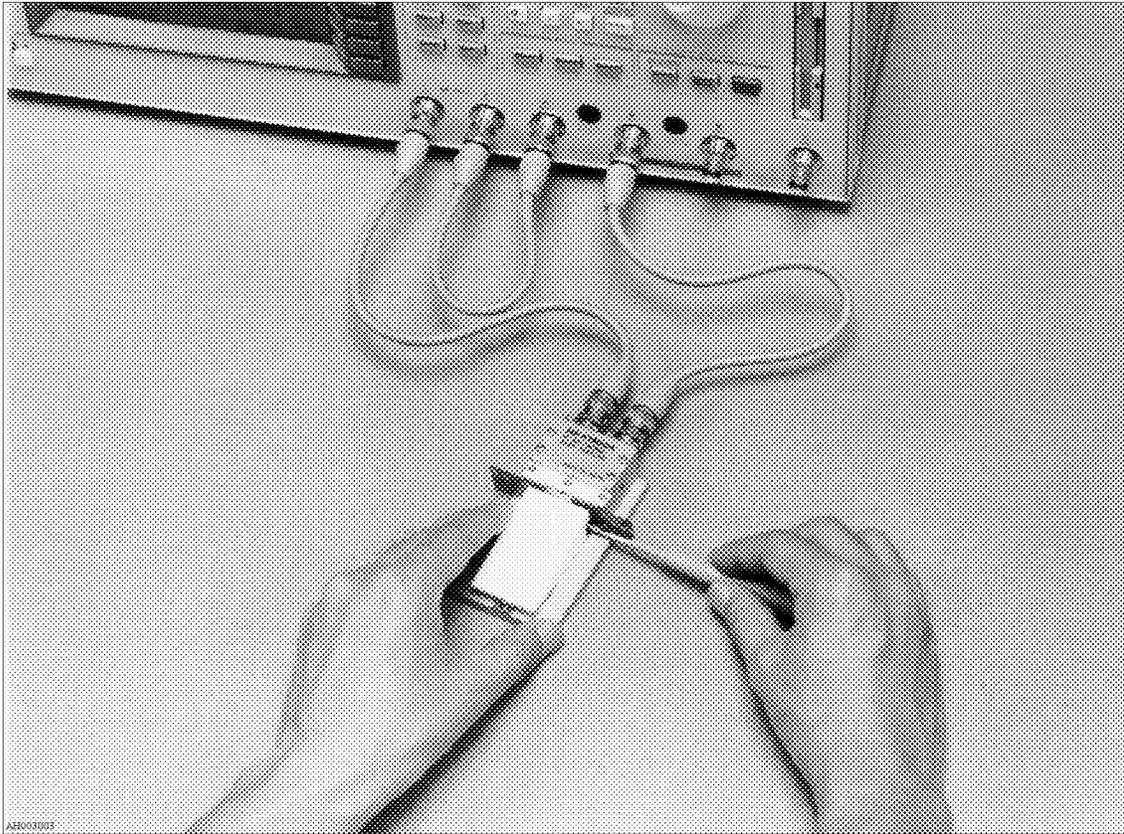

Figure 3-6. Load Capacitance Adjustment
14. Adjust the load capacitance with a screw driver as shown in Figure 3-6.